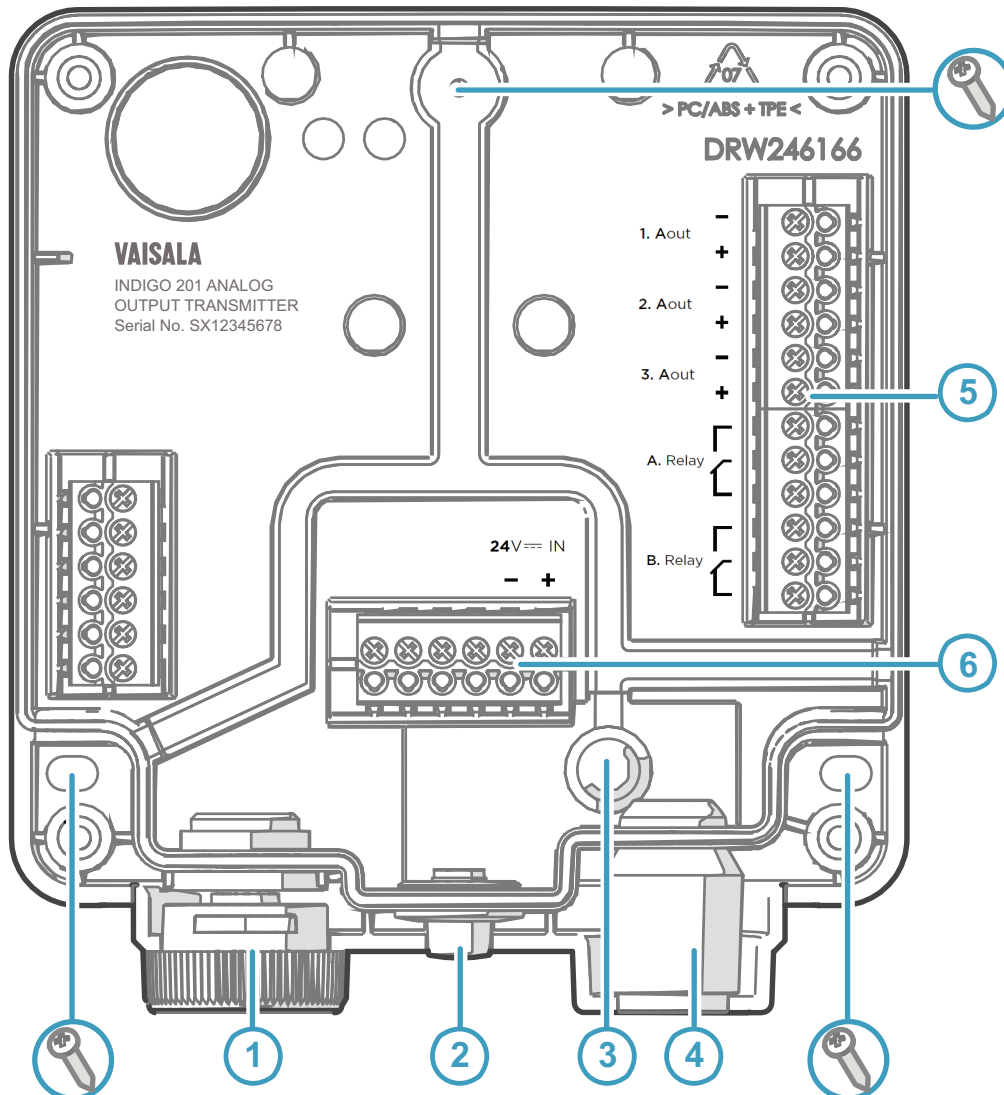

Figure 10 Indigo 201 Transmitter Base Main Parts and Screw Positions
4. Place the transmitter base on the installation surface and mount it with 3 screws. See the screw positions in Figure 10 \(page 18\).